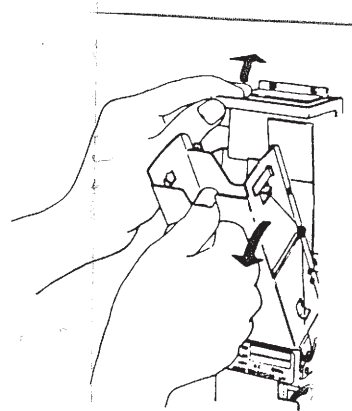

Figure 14
2. Remove the retaining screw that secures the logic board and strain relief. See Figure 14.